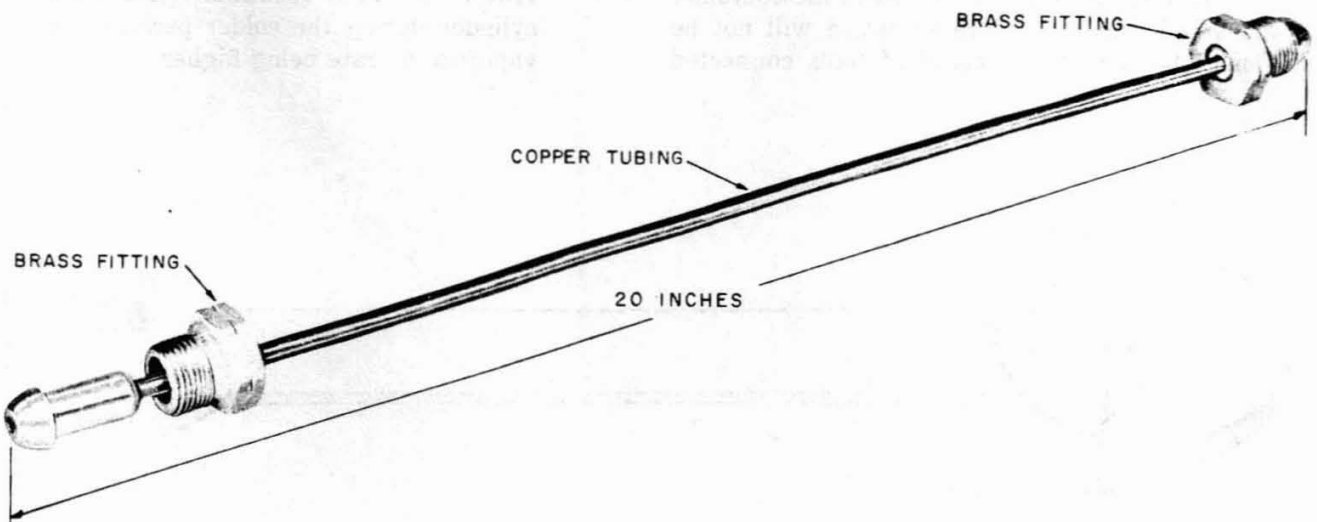

**Fig. 4—E Pressure Hose**
**5.07** The E Pressure Hose is available in lengths of 10 and 30 feet and is equipped at each end with a spring guard and coupling as shown in Fig. 4.